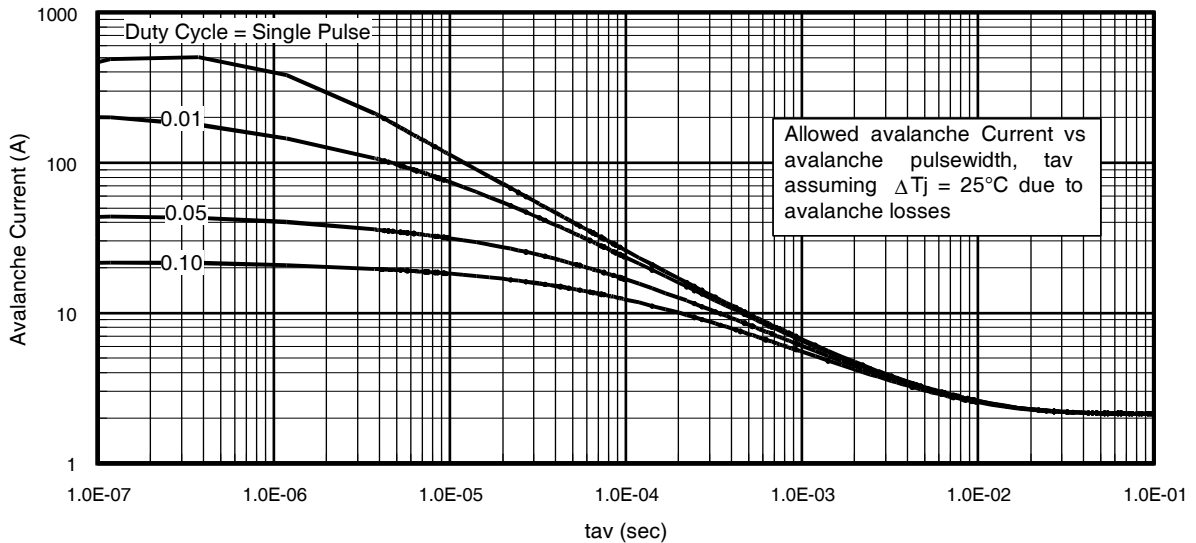

Fig 15. Typical Avalanche Current Vs. Pulsewidth
**Notes on Repetitive Avalanche Curves , Figures 15, 16:
7. ΔT = Allowable rise in junction temperature, not to exceed T_{jmax} (assumed as 25°C in Figure 15, 16).